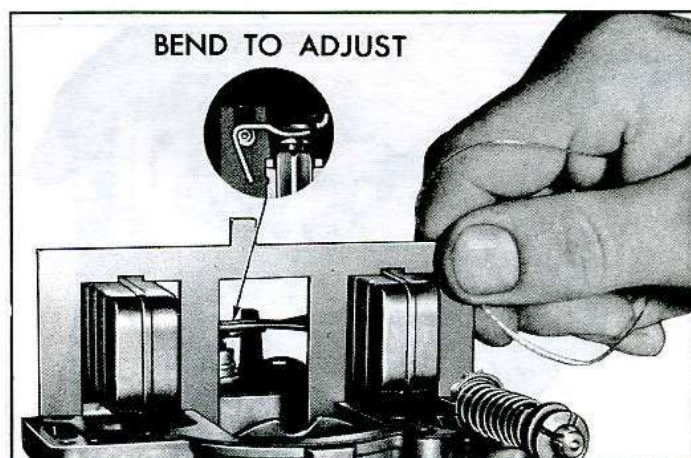

Fig. 11—Checking Float Level
- Invert the cover on a flat surface. Place float level tool in Chain Gauge Set J-21614 over float (fig. 11).